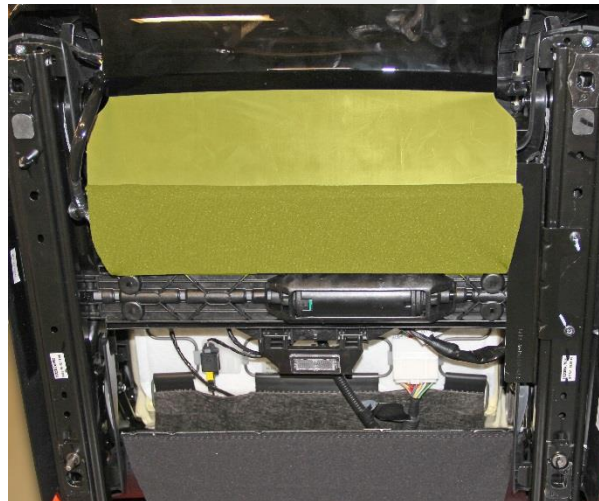

Figure 4 (Front lower cover highlighted)
7. Use a pick or similar tool to release the front lower cover from the underside of the seat (Figure 4).